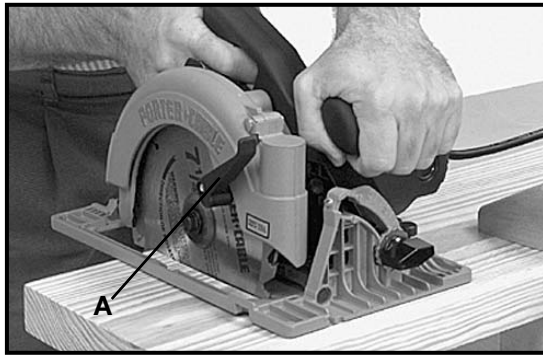

Fig. 14
⚠ WARNING: It is important to support the work properly and to hold the saw firmly to prevent loss of control which could cause personal injury. Fig. 14 illustrates proper hand support of the saw.
Clamp work on a rigid support such as a bench or saw horses. See Fig. 14. Mark the line of cut on the work. Be sure cut-off line is beyond end of support to the right only enough to allow proper operation of the telescoping guard. Place front edge of saw squarely on work before starting motor. Sight the
CAUTION: Keep the cord away from cutting area, so it does not get hung up in the work being cut. See Fig. 14.
Cutting directly across the grain of a piece of lumber is called crosscutting. Fig. 14 illustrates a crosscut operation. Position the work so that the cut will be on the right, as shown.
CAUTION: Use the lever (A) Fig. 14, provided on the telescoping guard when you have to retract the telescoping guard manually.